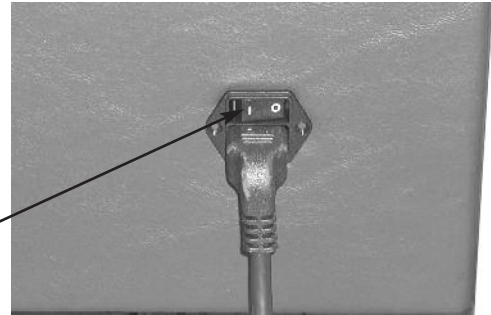

Fig. 4
- 7. Plug in A/C cord to back or foot end panel (See Fig. 4)
- 9. Turn table on by pressing the master power switch (See Fig. 4)